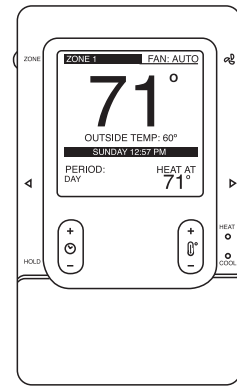

Fig. 7 - Lowest Temperature Setting
1. Set your room thermostat to the lowest temperature setting. (See Fig. 7.)